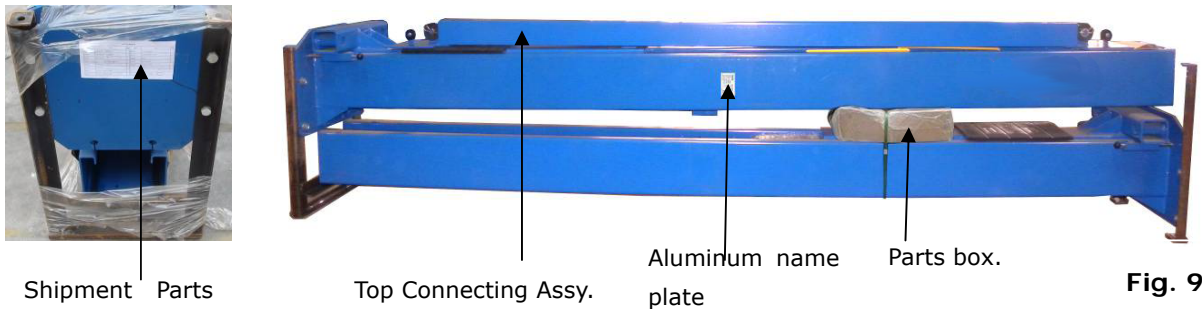

Fig. 9
2. Move the lift aside with a fork lift or hoist, and open the outer packing carefully , take off the parts from upper and inside the column, take out the parts box, check the parts according to the shipment parts list (See Fig. 9).